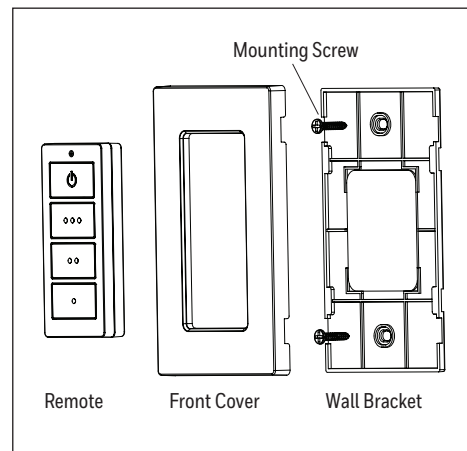

Figure 2.3
3. If desired, the wall bracket in remote pack can be installed to a wall using the provided mounting screws. Once the wall bracket is installed, snap the front cover onto it. The remote can be stored in the wall bracket for easy access (Figure 2.3).